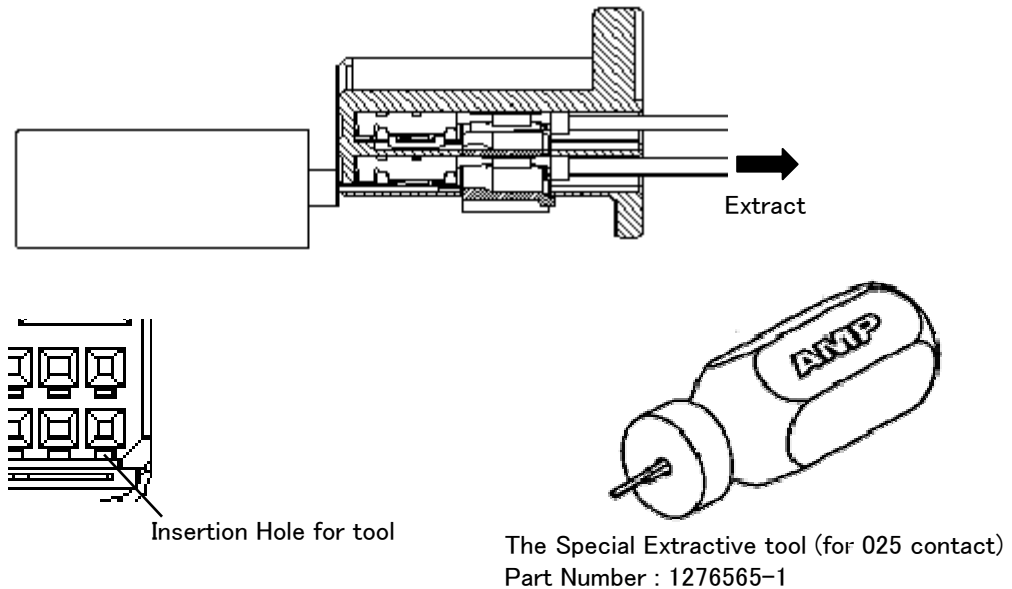

Fig.12
- (1) Confirm the retainer is in pre-assembled condition. When the retainer is in final lock condition, it must be changed to pre-assembled condition. See para.6.3. The female contact can not be extracted in final assembled condition.
- (2) Insert the tip of a special extractive tool into the proper hole to the end, remove the loaded contact from housing while pull the crimped wire. See Fig.12.